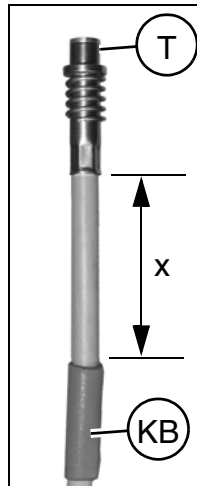

Fig. 19
- Secure the spiral spring to the sensor supply cable approx. 4 cm (x/Fig. 19) behind the temperature sensor with adhesive tape to keep it from slipping back (KB/Fig. 19).
- Secure the spiral spring to the sensor supply cable (x/Fig. 19) approx. 4 cm behind the temperature sensor with adhesive tape (KB/Fig. 19) to keep it from slipping back.